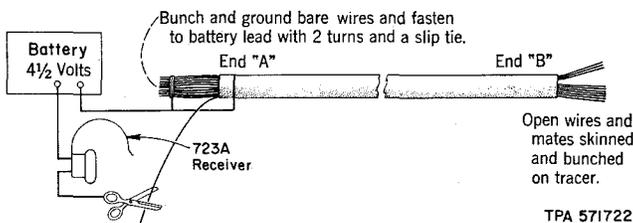

Fig. 6—Test For Opens and Split Pairs
4.05 At end (A), test each pair in the first group for opens as shown in Fig. 6. If the short circuit at end (B) is not picked up at end (A), the pair is either split or open. Tag the pair for further test.